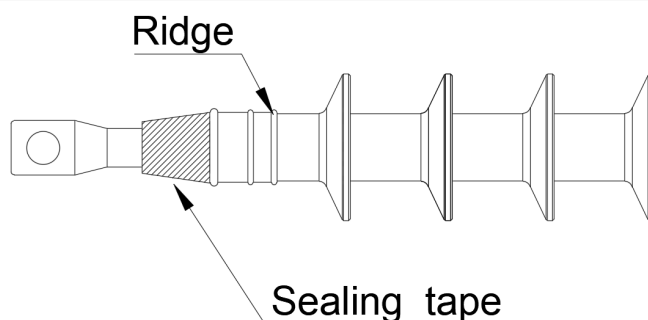

Fig.13
- Wrap sealing tape from the crimping position (or first bolt) of the terminal to the port of the cold shrink product in a tapered shape, creating a smooth transition. (Fig.13)